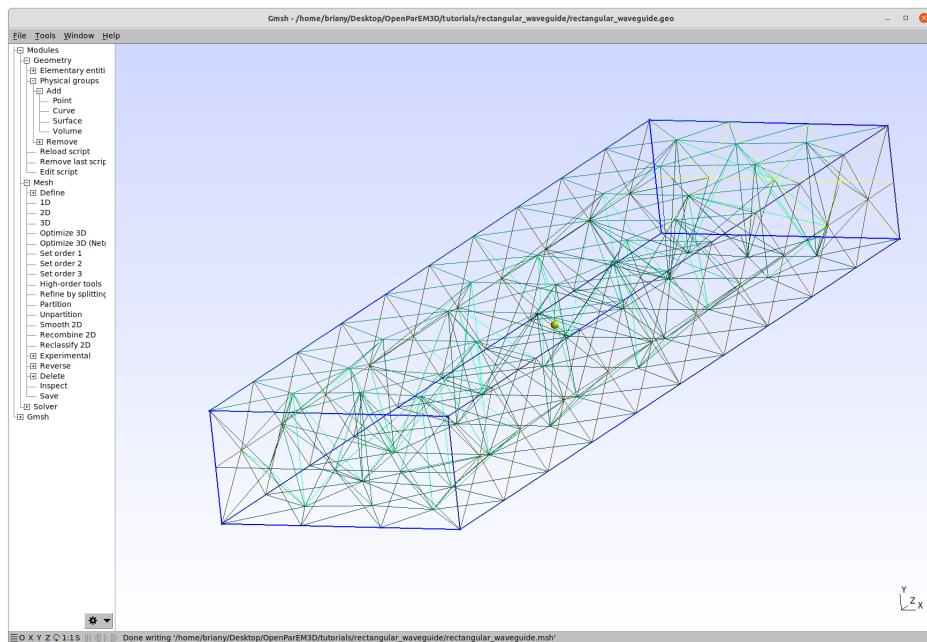

Figure 8: Screenshot of the meshed straight section of rectangular waveguide.
- To mesh the geometry, in the options tree click **Mesh**→**3D**. A screenshot of the mesh is shown in Fig. 8.